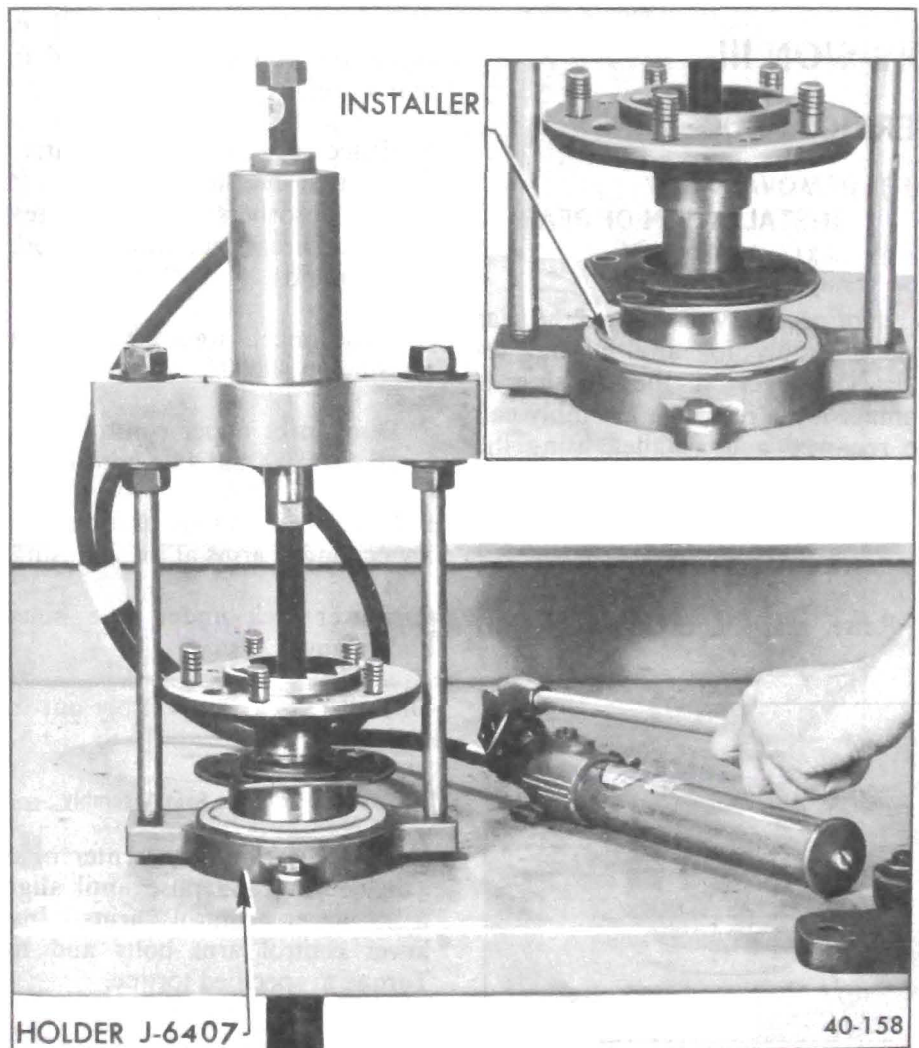

Figure 40-129 Installing Axle Shaft Bearing
3. Install bearing retainer plate. Press new bearing against shoulder on axle shaft using Installer J-9739 either in a press or in a set-up using Ram and Yoke Assembly and Holder J-6407 shown in Figure 40-129.